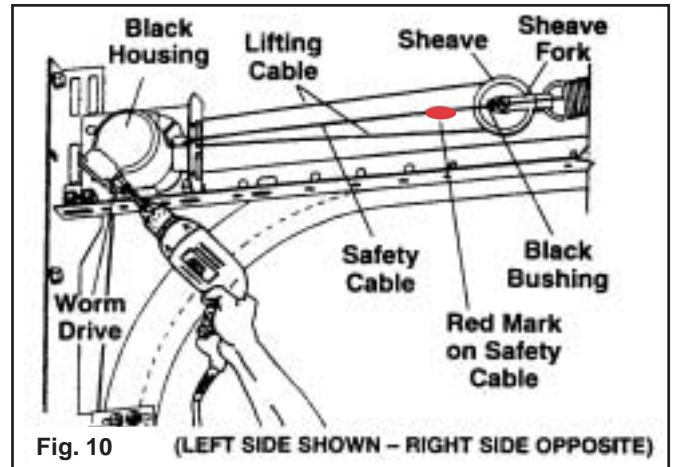

Fig. 10 (LEFT SIDE SHOWN - RIGHT SIDE OPPOSITE)
Step 8: Wind the worm drive on the black housing with a standard $\frac{3}{8}$ " drill using the $\frac{1}{4}$ " hex driver provided. Make sure $\frac{1}{4}$ " hex driver is inserted completely into the worm drive. The spring is tensioned by operating the drill in the forward (clockwise) direction. (FIG. 10)